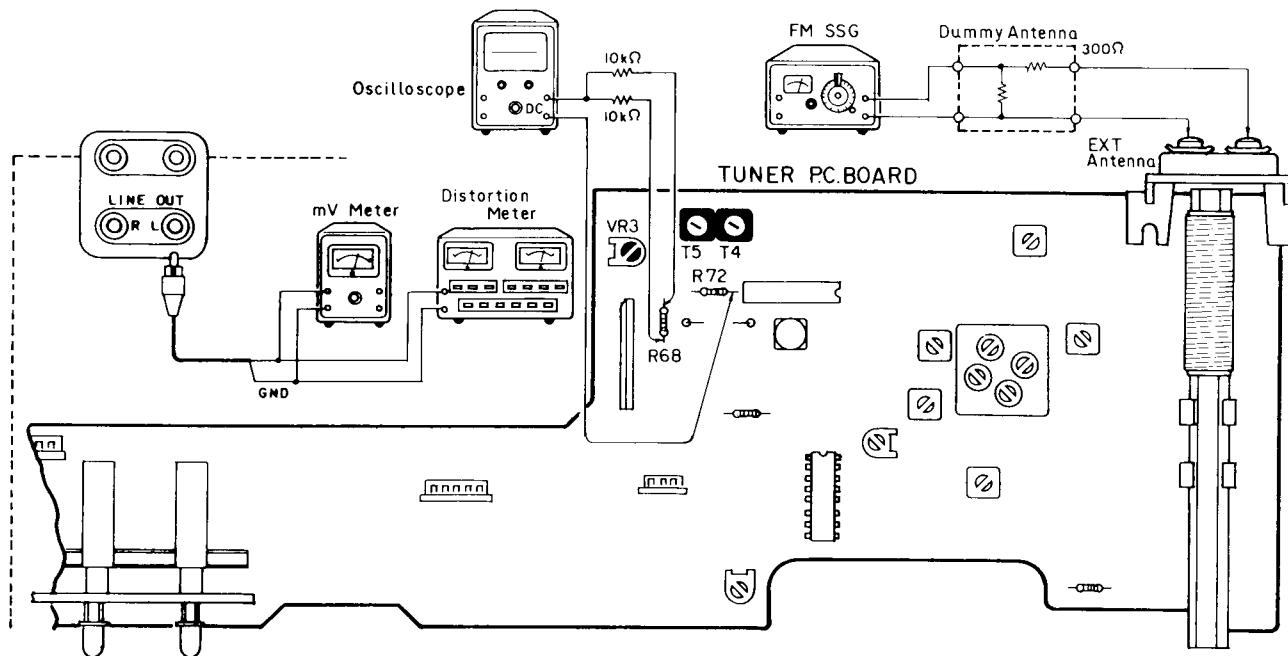

Fig. 44
- Connection Diagram (Shown in Fig. 44)